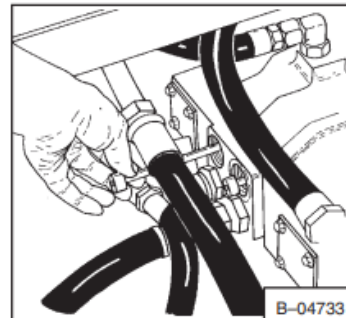

Fig. 3-155 Installing Tool
3. Install the tools (Fig. 3-155, Items 1 and 2) and then install only the plugs. Tighten the plugs.